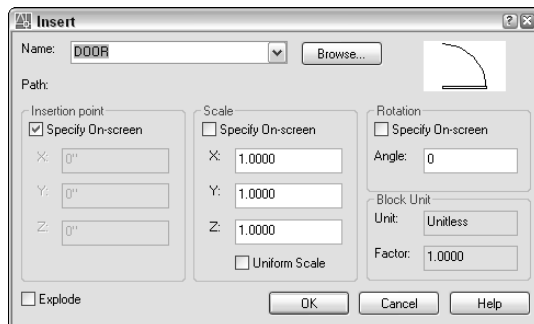

Figure 18-8: The Insert dialog box.
1.  Choose Insert Block from the Draw toolbar to start the INSERT command. The Insert dialog box opens, as shown in Figure 18-8.